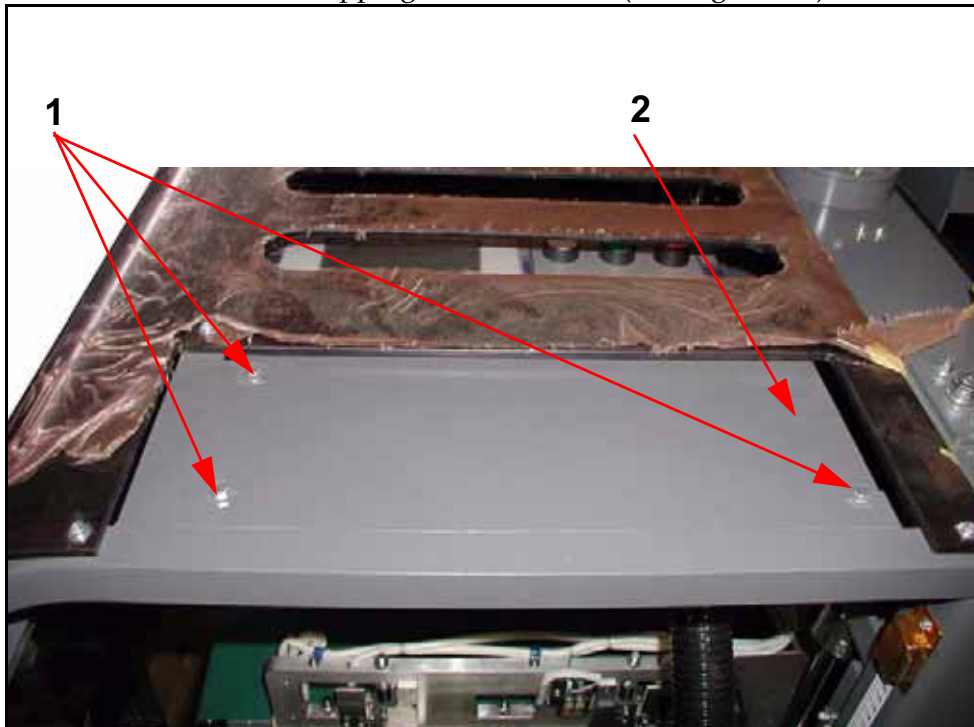

Figure 4-9. Shipping Bracket Removal
- 12 Remove shipping bracket screws (1 in Figure 4-9) and bracket (2).